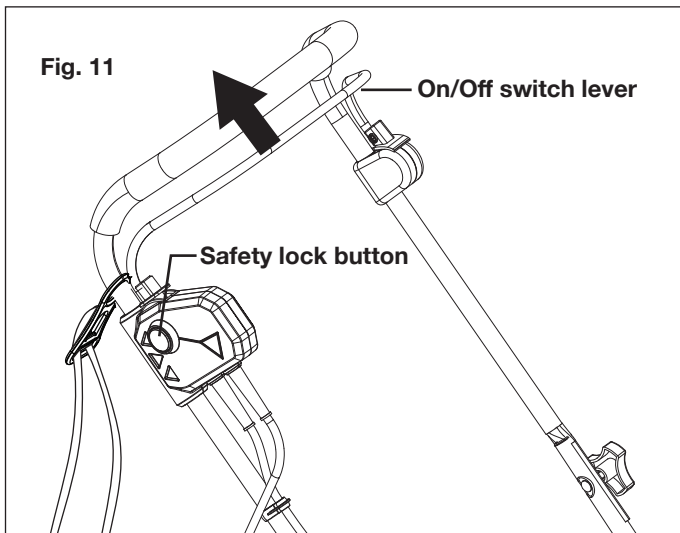

Fig. 11
5. To start the lawn mower, press and hold the safety lock button while pulling the On/Off switch lever toward you. Once the machine powers on, release the safety lock button (Fig. 11).
7. To stop the lawn mower, release the On/Off switch lever (Fig. 11).